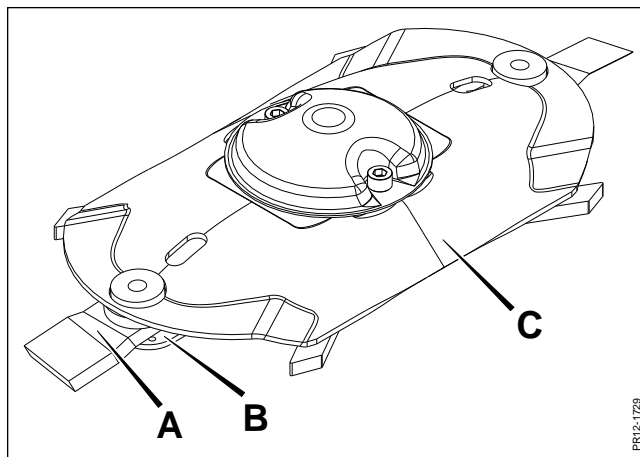

Fig. 5-5
**Fig. 5-5** The system is designed for quick fitting/replacement of blades and high safety as blades **A** cannot unintentionally be released from the blade holder **B**, which is bolted under the disc **C**. The blade holder **B** fixes the blade firmly to the disc.